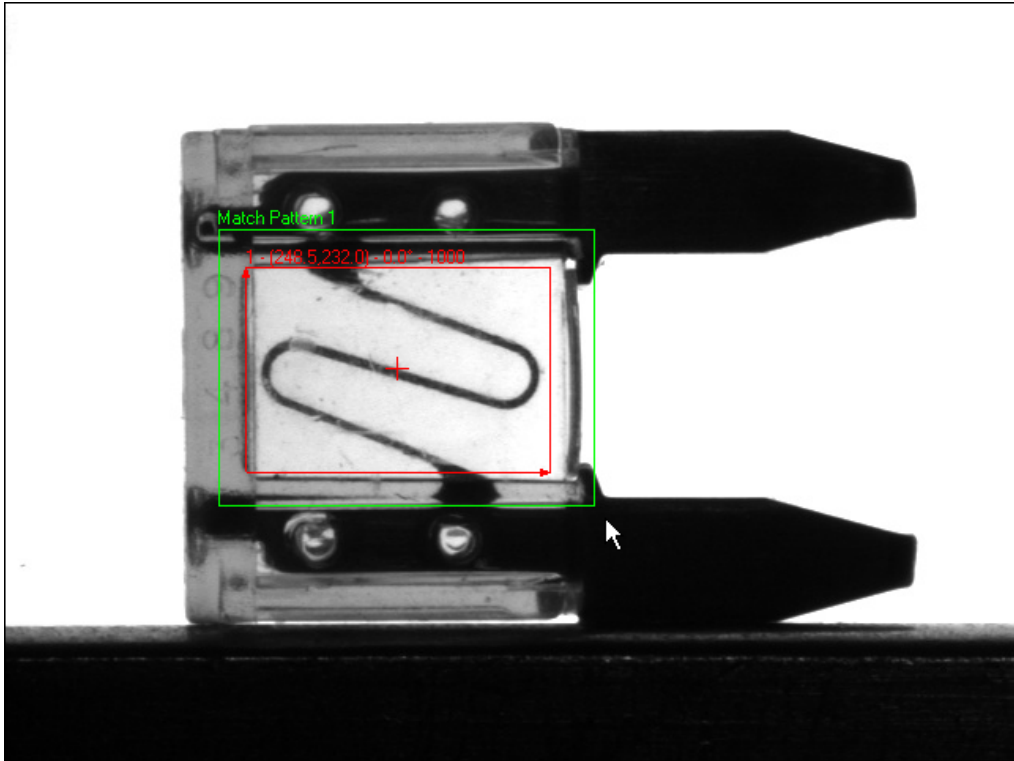

Figure 4-4. Limiting the Search Region
7. Redraw or decrease the default green ROI so that it surrounds an area slightly larger than the template, as shown in Figure 4-4.